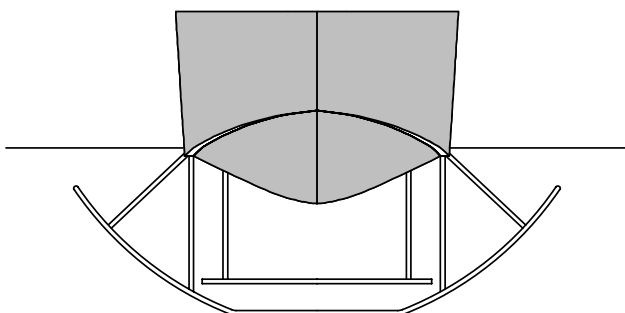

Figure 7: Foil arrangement on typical monohull
- A foil that can be kept within the boundaries of the hull is much less prone to damage. A typical surface-piercing hydrofoil on a monohull has the foils exposed both beneath the hull and in some cases out beyond the vessel's beam — see Figure 7.